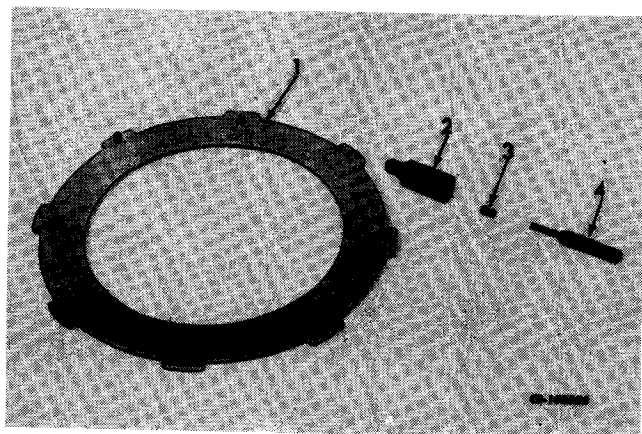

Figure 4-27
Clutch plates, bronze (1, Fig. 4-27) and steel (2), may be lifted from the clutch hub assembly (4).
Inspect the rubber plugs (3, Fig. 4-27) on the steel plates. Damaged or worn plugs must be replaced.